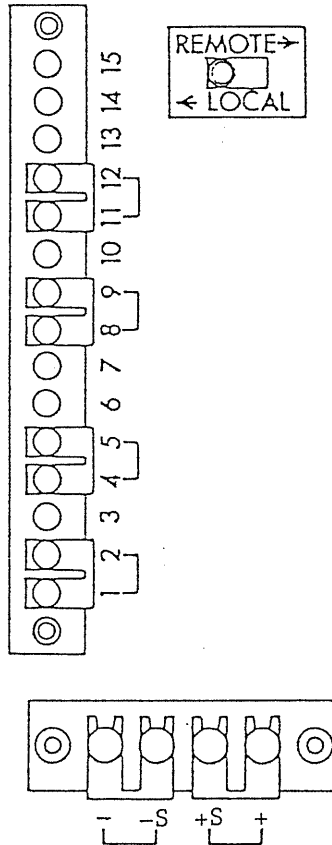

FIG. 2-4
Step 1. Make sure that the shorting bars of the terminals on the back panel are connected securely as indicated by FIG. 2-4. Also, set the remote/local switch to "Local".